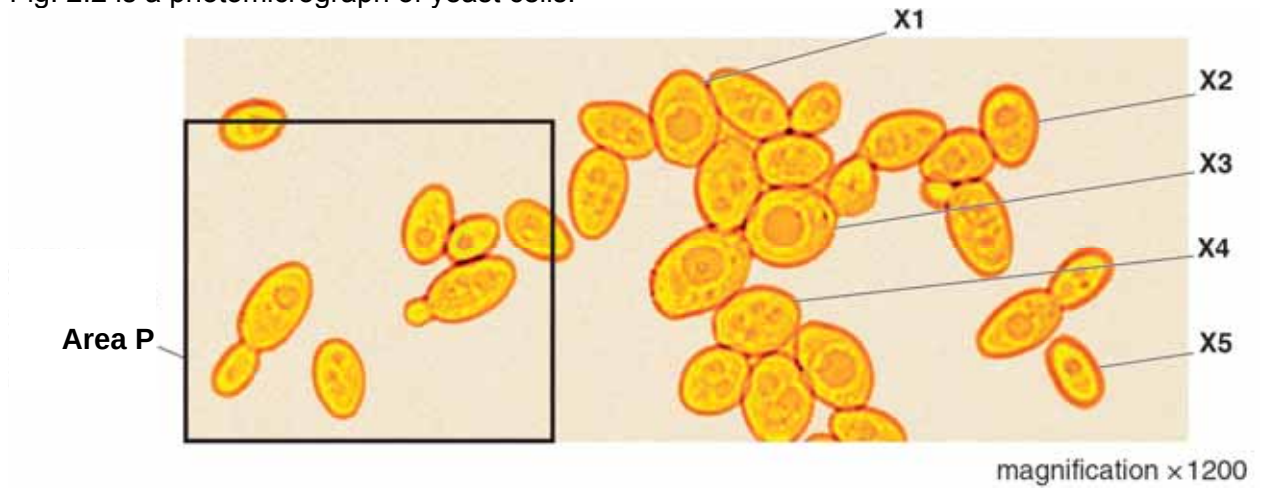

Fig. 2.2
Fig. 2.2 is a photomicrograph of yeast cells.
- (ii) Make a large drawing of the whole cells in area P shown in Fig. 2.2.